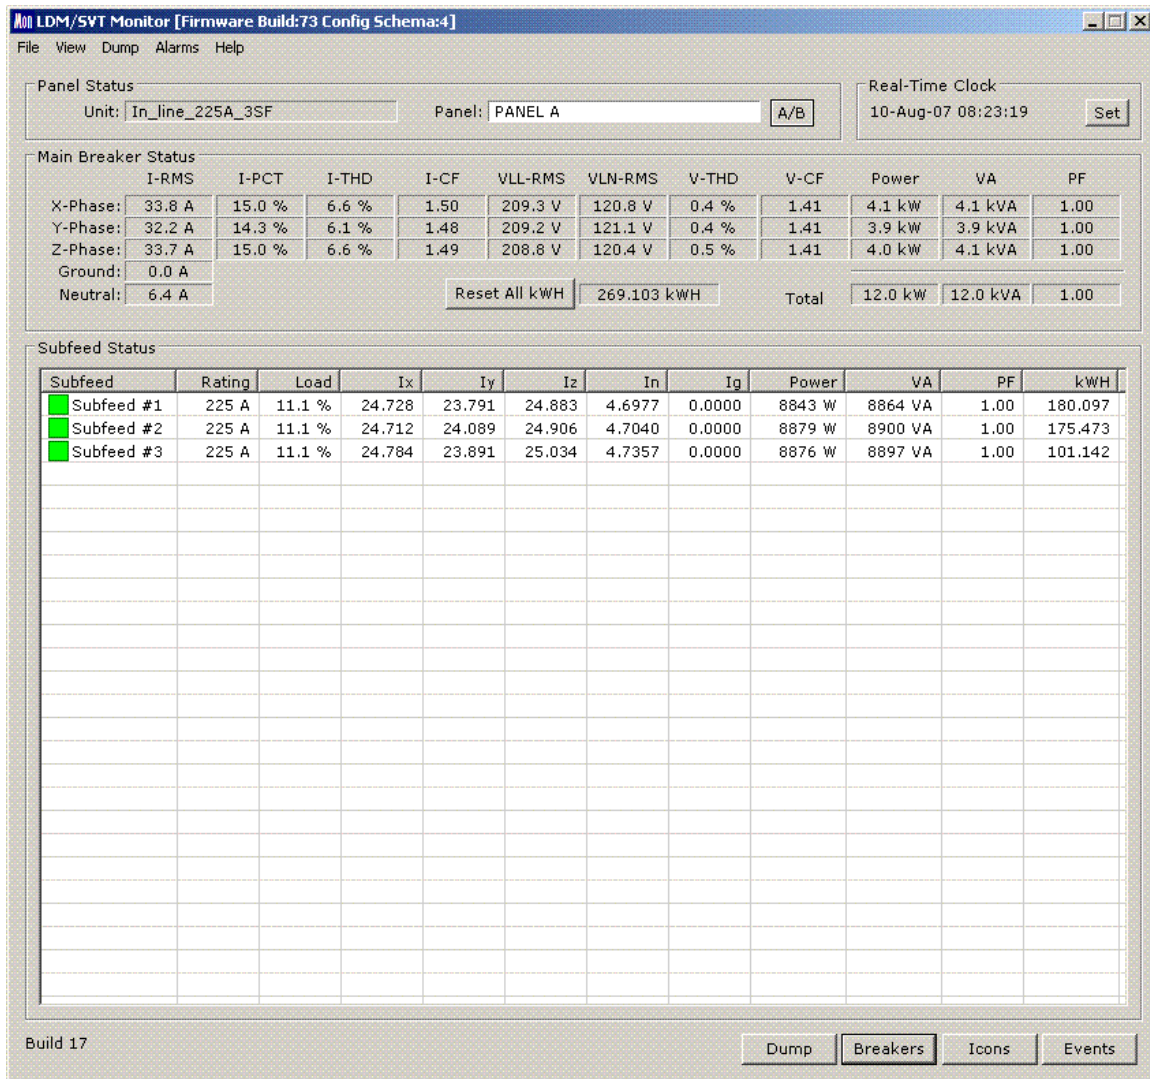

Figure 2: Subfeed Display
- Subfeed Status - See Fig. 2.